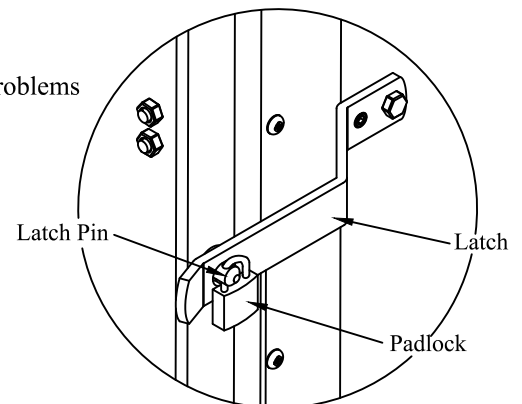

Figure 28: Padlock location.
9. **Lock** the padlock through the hole in the latch pin (Figure 28).